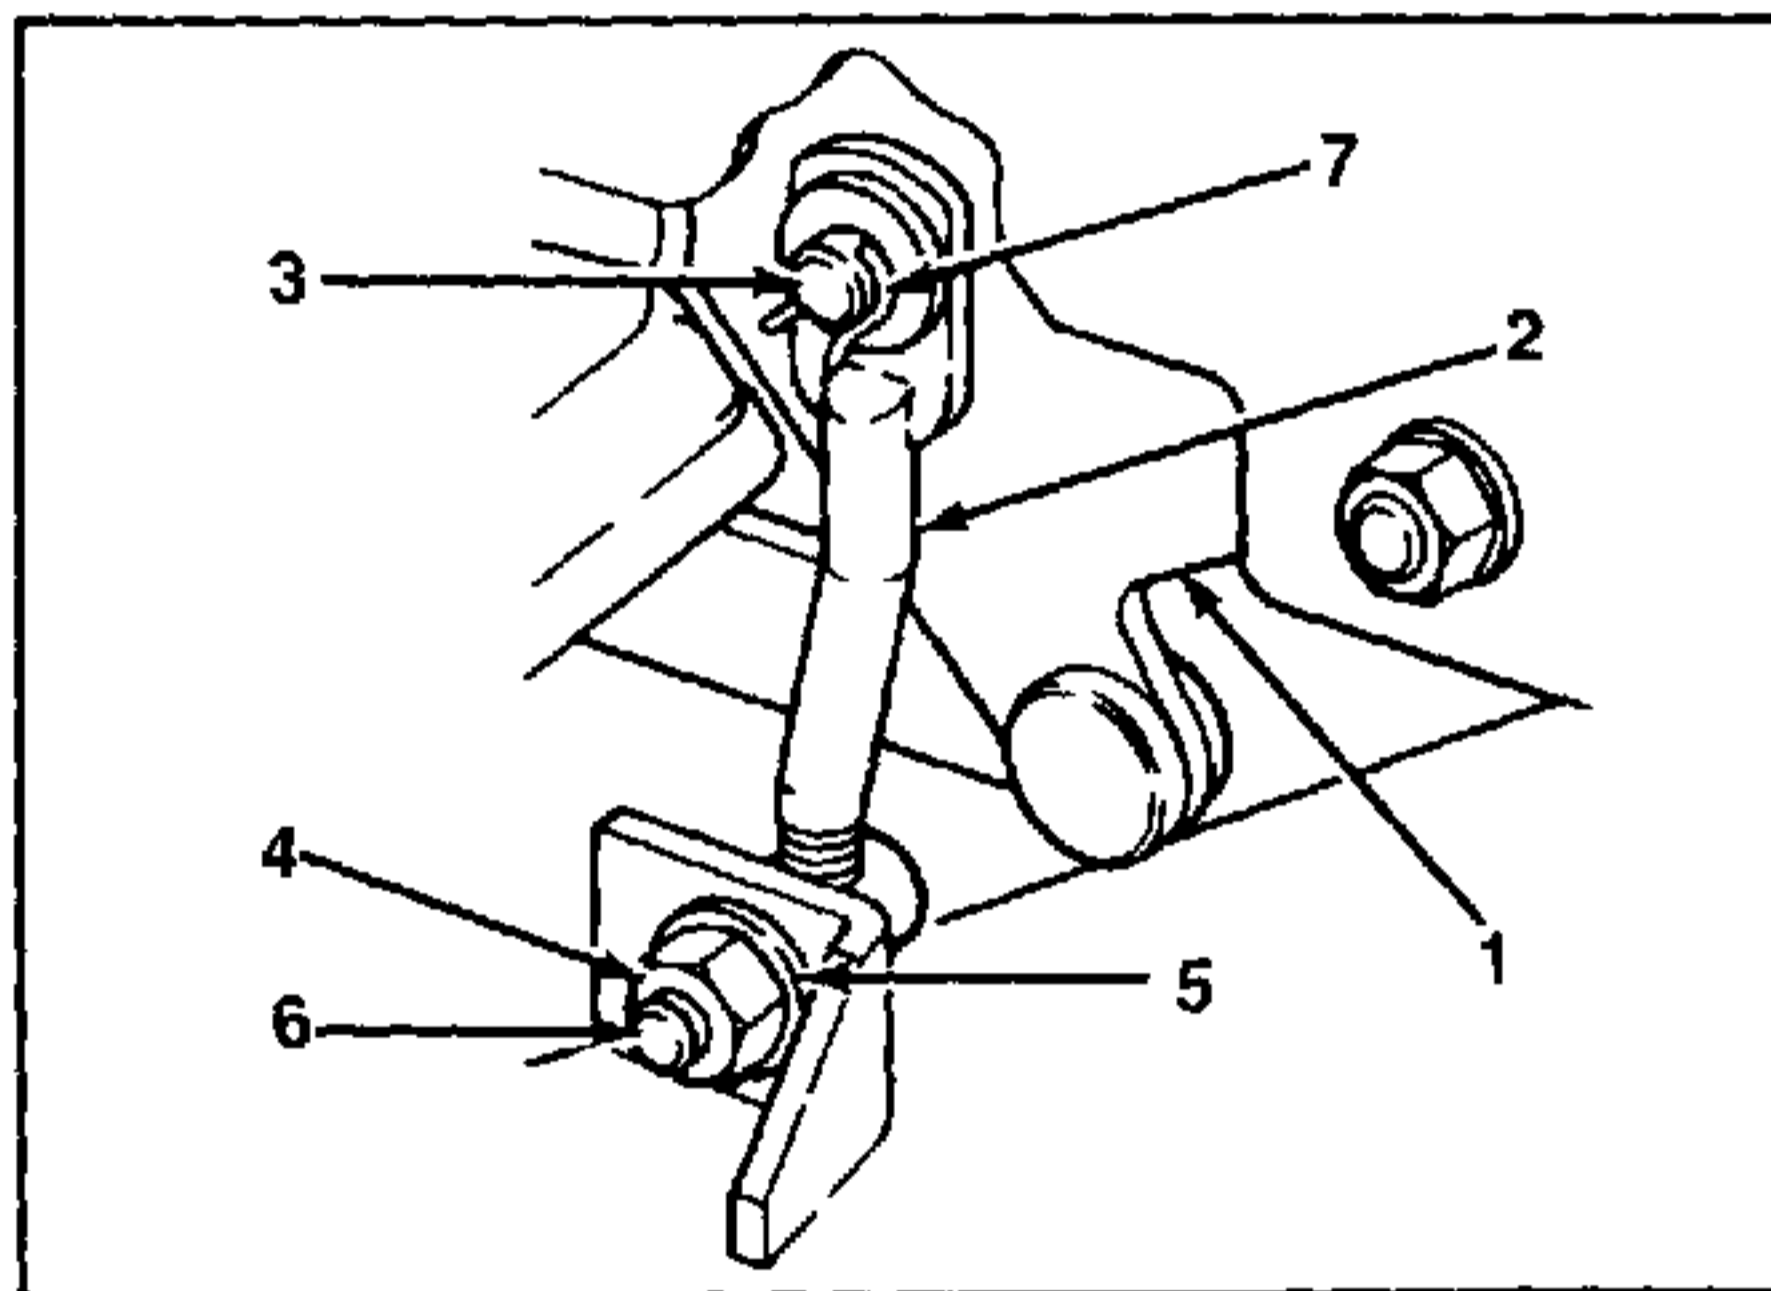

FIGURE 20.
- Place the lift handle in position number 1. Refer to figure 20. Working on the same side of the deck as the blade being adjusted, remove the hairpin cotter and flat washer which secure the front lift link to the lift carriage lift pin. Remove the front lift link from the lift carriage lift pin.